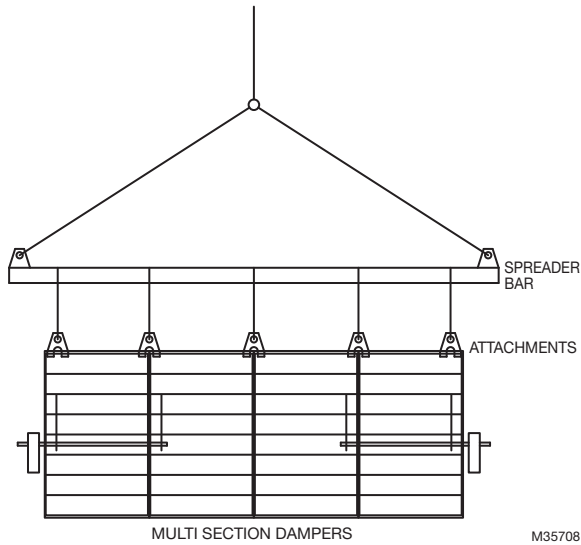

Fig. 1. Handling multiple sections assemblies.
2. Lift or handle damper using sleeve or frame. Do not lift damper using blades, linkage, actuators, or jackshafting. When handling multiple sections assemblies, use sufficient support to evenly lift at each section mullion (see Fig. 1). Do not drag, step on, apply excessive bending, twisting, or racking.
6. If no holes are present in frame, drill 1/4 inch (6mm) diameter holes at 6 inch (52mm) centers and fasten frames together with 1/4 inch (6mm) #20 (.03mm) bolts and nuts (see Figure 1 & 2).